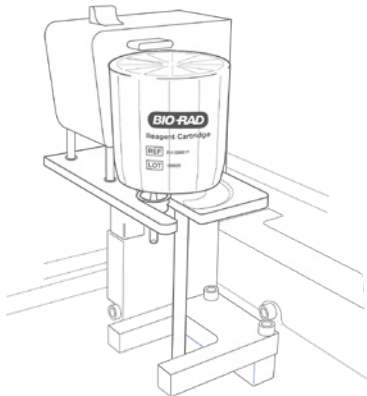

Fig. 35. Reagents Cartridge on spindle.
3. Pull aside the cartridge retainer arm and place the Reagents Cartridge on the spindle, spinning it slowly until the keys align and it drops down (Figure 35).